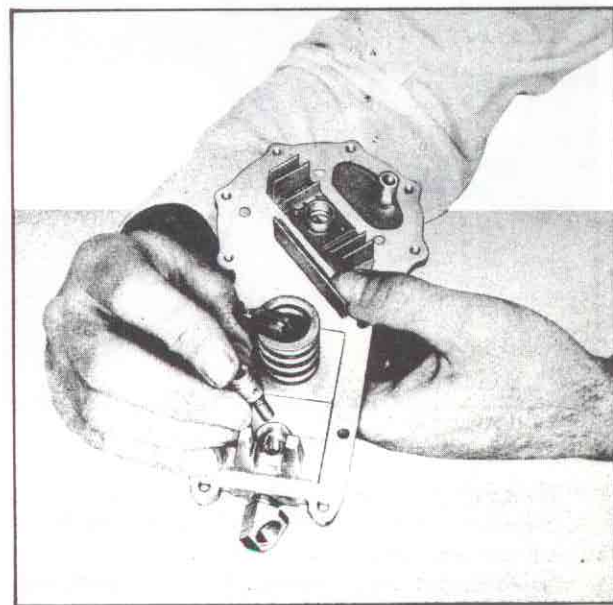

Figure 48
18. Install needle seat and screen (fig. 48).